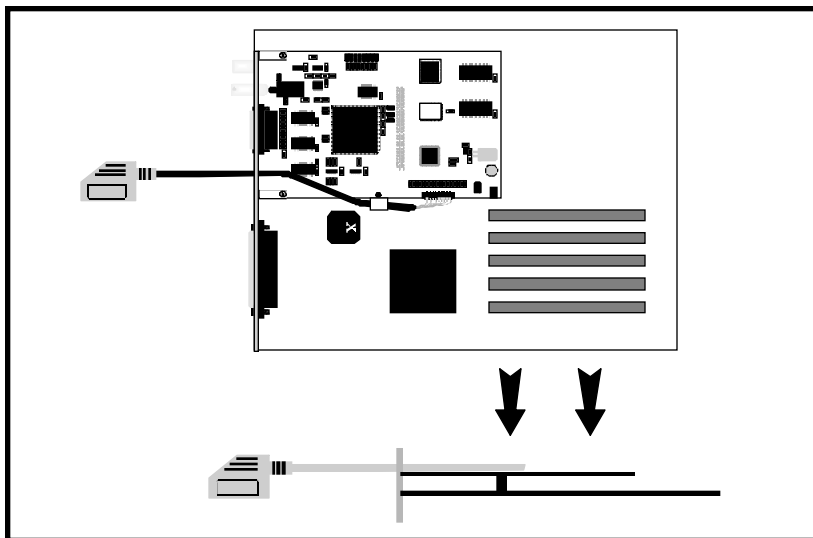

figure 2.5
- ▲ Line up the 3270 X/LT's connector to the slot on the controller board and slide the coax interface through the port opening so that X/LT is properly aligned (fig. 2.5).